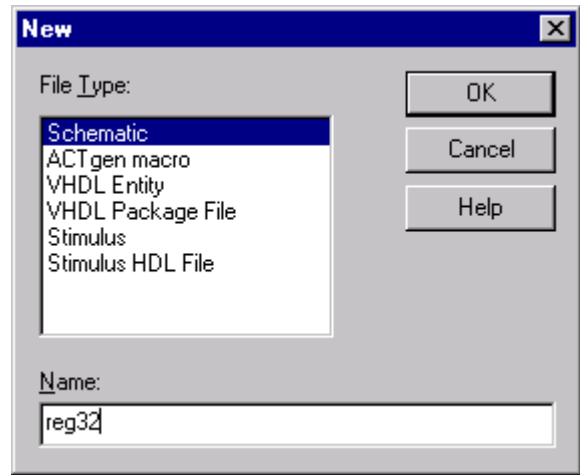

Figure 13 - Libero's New File dialog box
1. From the File menu, click *New* again or double-click on *ViewDraw* in the process window. The New File dialog box is displayed (Figure 13).